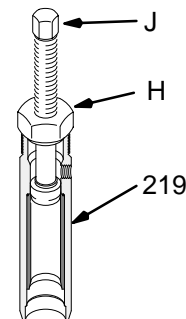

Fig. 13
6. Remove the sleeve whenever you service the pump. Use special tool, Part No. 222-586 only. Screw the nut (H) into the cylinder (219). Screw down the rod (J) to push the sleeve out. See Fig. 13.